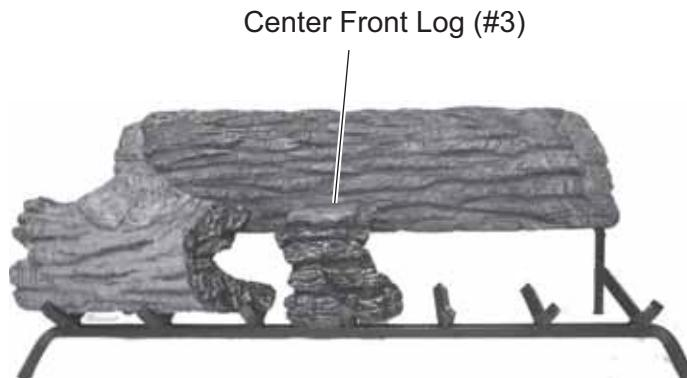

Figure 38 - Placing Center Front Log (#3)
4. Place center front log #3 on middle grate prong. See *Figure 38*.